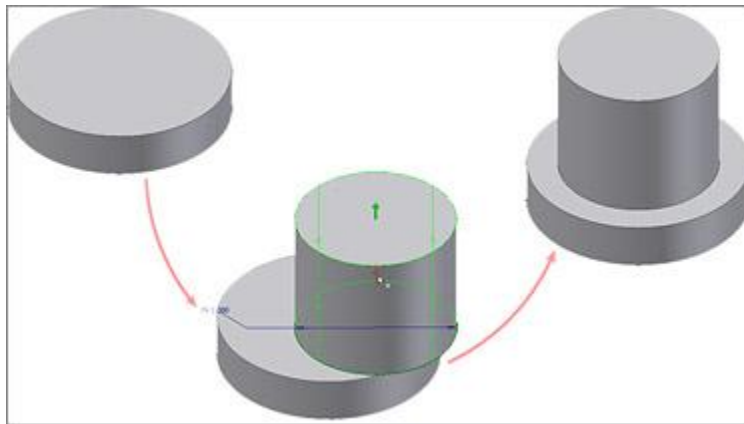

Figure 9. Use 3D Grip editing commands to modify the inserted feature.
6. Once the feature is in the part environment, use 3D Grips to change its location and size to suit your needs (figure 9).